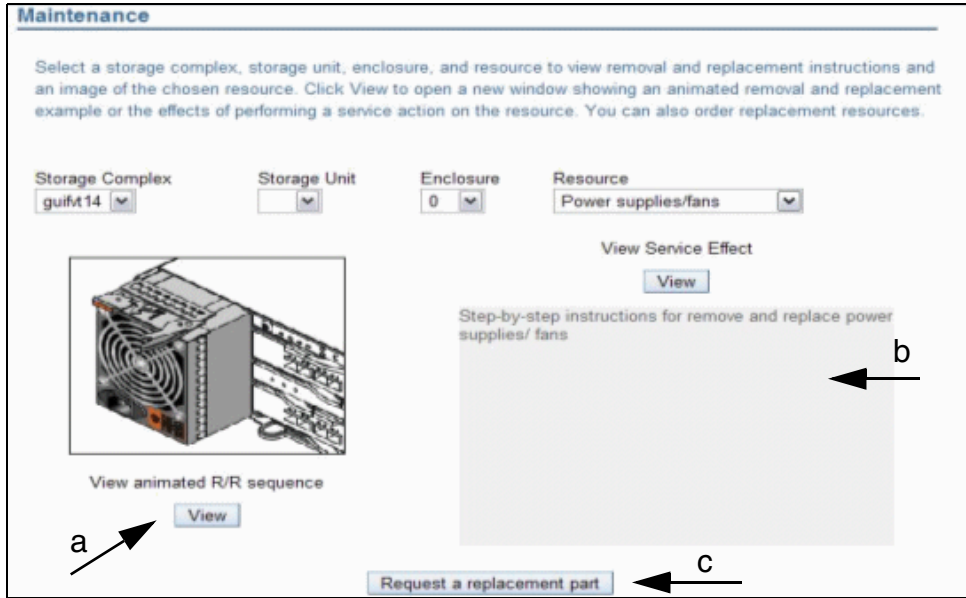

Figure 3-7 Power supply replacement via the GU
1. Review the online component removal instructions. Figure 3-7 shows an example of the screen you might see. On this screen, you are given the ability to do things such as: